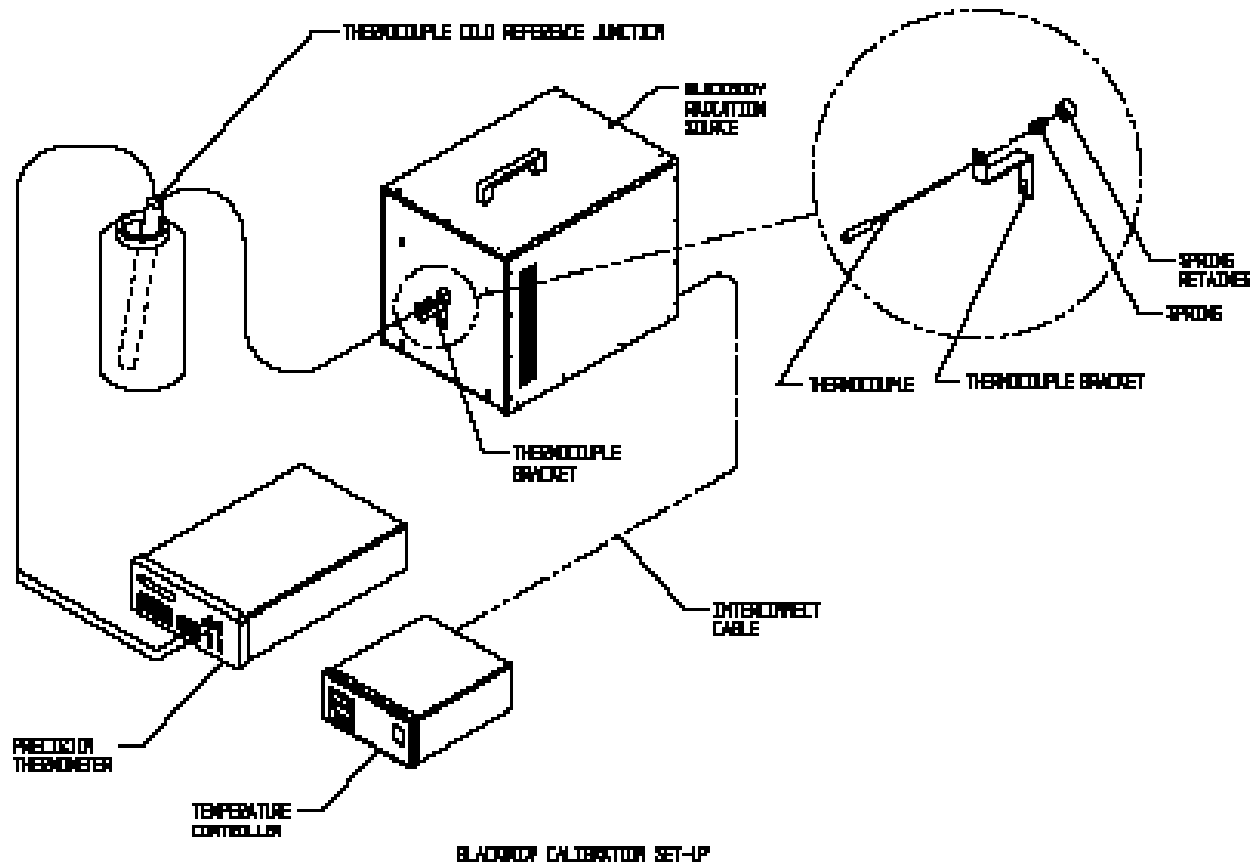

Figure 7.2 Calibration Equipment Set up
7.4 CALIBRATION SET-UP PROCEDURE (Manually from front panel) (Figure 7.2)